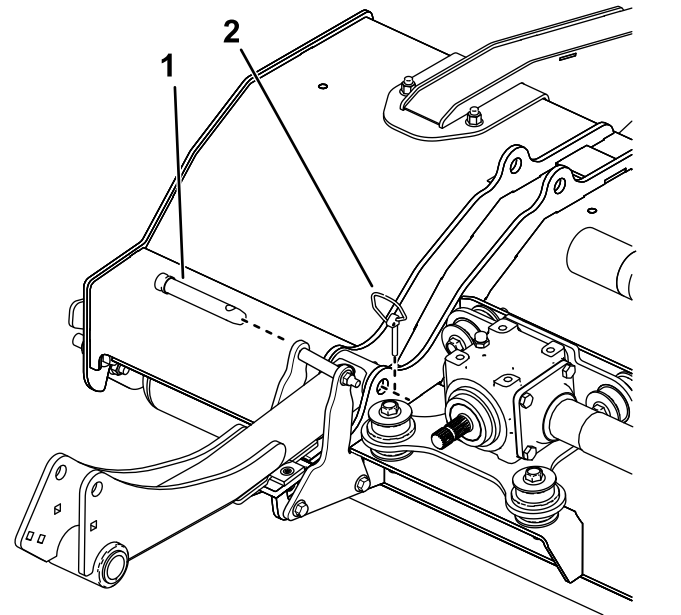

Figure 30
4. Remove the lynch pins and pins securing the cutting unit to the lift arms (Figure 30).